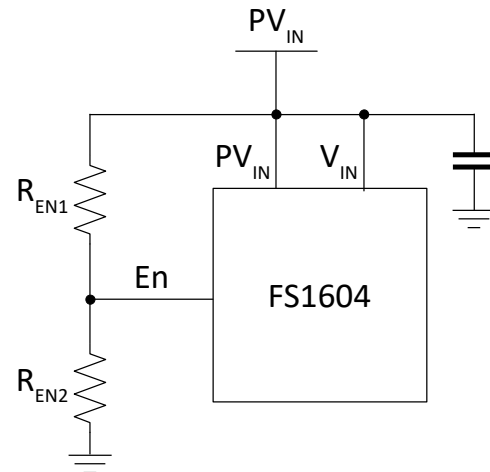
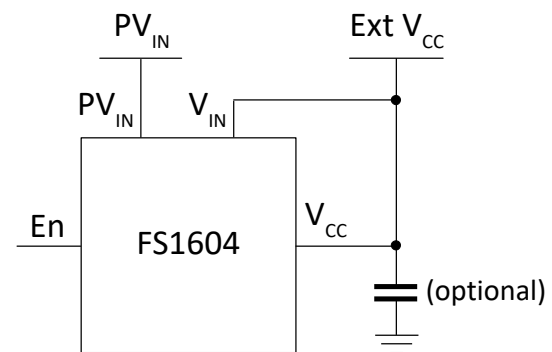

Figure 6 Single supply configuration: internal LDO regulator, adjustable PV_{IN_UVLO}
Figure 7 Using an external bias voltage
The FS1604 has an integrated Low Drop-Out (LDO) regulator, providing the DC bias voltage for the internal circuitry. The typical LDO regulator output voltage is 5.2V. For internally biased single-rail operation, the V_{IN} pin should be connected to the PV_{IN} pin (Figure 6). If an external bias voltage is used, the V_{IN} pin should be connected to the V_{CC} pin to bypass the internal LDO regulator (Figure 7).
- It can be used to implement a precise input voltage UVLO. The input of the En pin is derived from the PV_{IN} voltage by a set of resistive dividers, R_{EN1} and R_{EN2} (Figure 6). Users can program the UVLO threshold voltage by selecting different ratios. This is a useful feature that stops the FS1604 regulating when PV_{IN} is lower than the desired voltage.